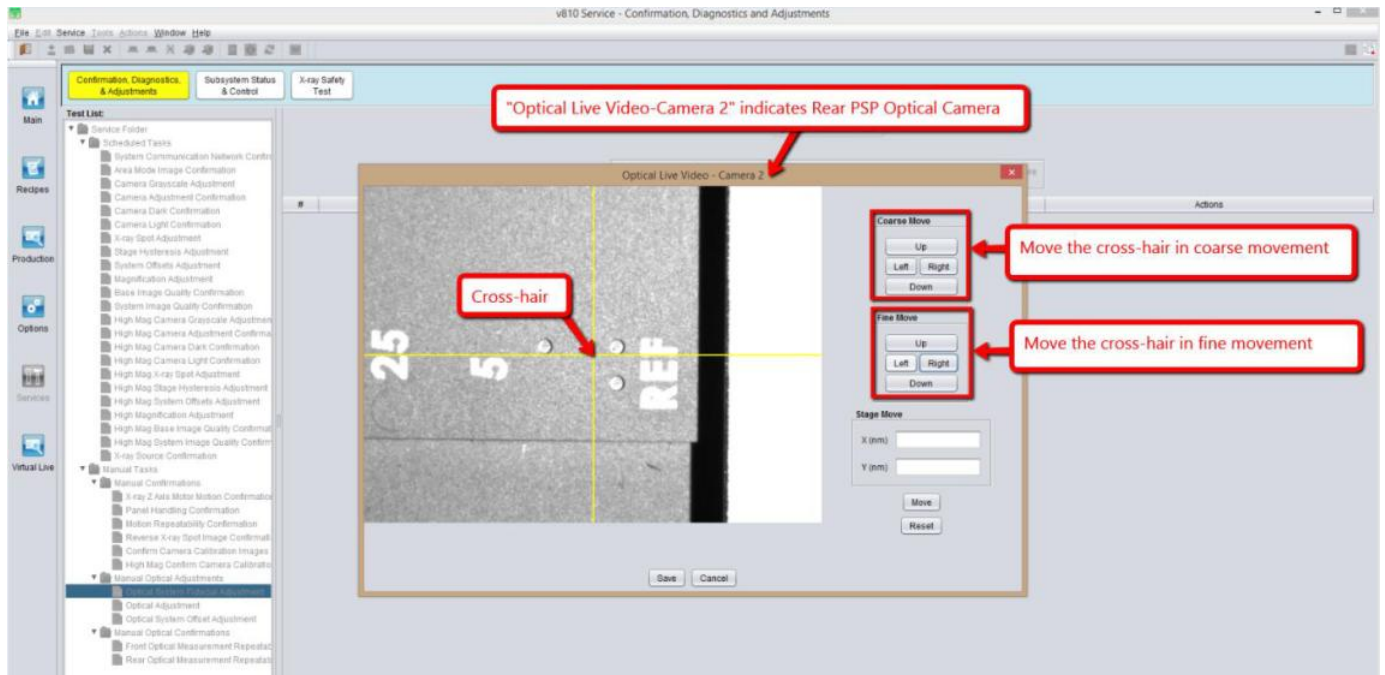

Figure 9 Rear PSP Optical Camera
11. Next, Optical Live view camera 2(Rear PSP Camera) will be shown as Figure 9.